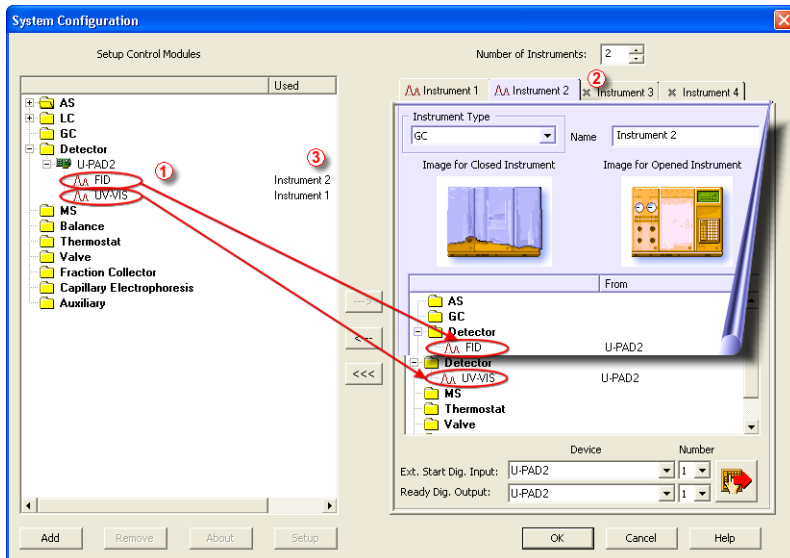

Fig. 10: System Configuration – multiple instruments
When measuring on multiple instruments using only a single **U-PAD2** to gather data, rather than dragging the entire **U-PAD2** icon from the *Setup Control Modules list* ①, drag the individual detector signals (**FID**, **UV-VIS** in this case) to separate Instruments ②. See **Fig. 10** on pg. 11. The Instrument to which the particular signal is connected is listed to the right ③ of the detector name in the *Setup Control Modules* section.